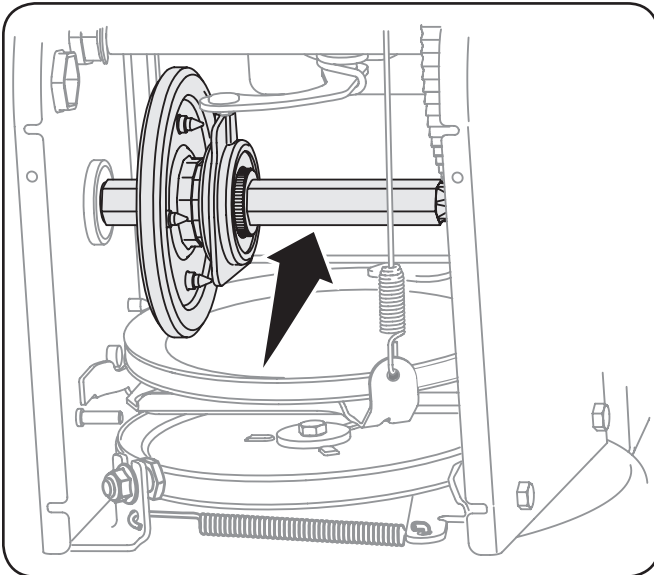

Figure 6-5
4. Apply a light coating of Bostik Regular Grade Never-Seez® to the hex shaft. See Figure 6-5.